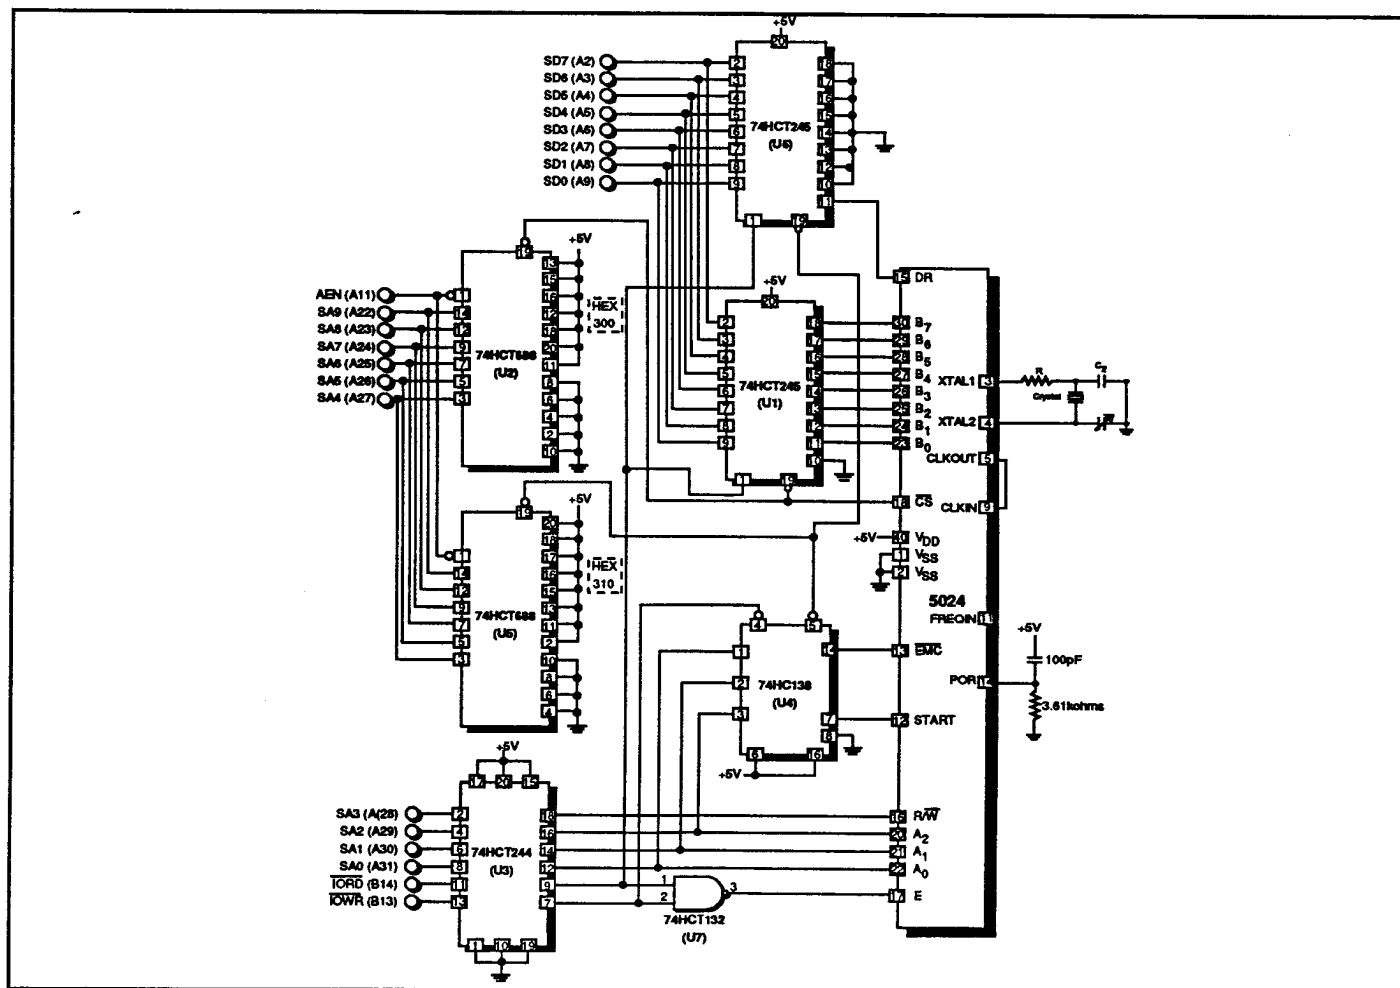

Figure 8. IBM PC Interface
A Power-On-Reset (POR) function is included on pin 14. A minimum pulse width of 250ns is required, as is a $V_{DD} = +5V$. (Refer to Figure 8.) An increase in R will create a longer reset pulse.
The 5024 Counter/Timer design allows for straight-forward interfacing to virtually any microprocessor bus structure. The 5024 is configured to be used in a bus-command oriented interfacing scheme, rather than an interrupt-driven scheme. Figure 8 is an example of how the 5024 can be interfaced to the IBM® PC/XT/AT family of personal computers. In this example, the counter/timer is interfaced in specific I/O-mapped address spaces. Other valid I/O-mapped addresses may be substituted depending upon overall system requirements. The address spaces implemented in this example are:
Refer to Figure 8. Address decoding is accomplished by placing the available address bits from the PC's I/O channel (A_0, A_1, A_2) onto the inputs of the magnitude comparator (U_2 — 74HCT688). When equality is detected, the comparator's output enables the data bus transceiver (U_1 — 74HCT245), and activates the chip select \overline{CS} of the 5024. The data buffer (U_3 — 74HCT244) provides buffering for the \overline{IORD} , \overline{IOWR} , and lower four (4) address bits. Address bit SA_3 establishes whether a READ or WRITE operation is to be performed.
face bus as shown in Figure 8, or by tying it to an appropriate interrupt request line.